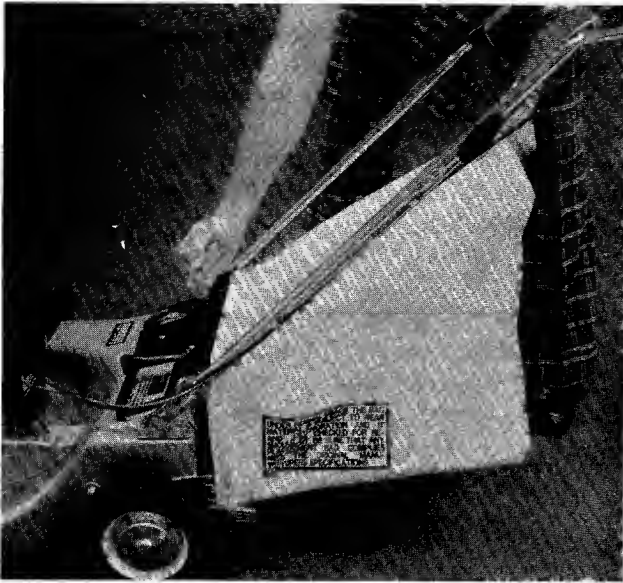

FIGURE 9
3. Move the locking lever towards the rear of the mower. (See figure 9.) This locks the grass catcher in place and opens the doors.